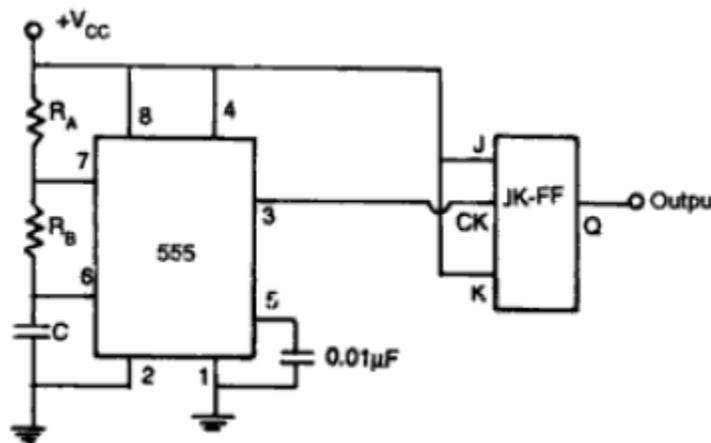

Figure 21 FSK generator
- The circuit is as shown in Fig. 21. The standard digital data input frequency is 150 Hz.
- The frequency of the output waveform given by equation (1) can be rewritten as,